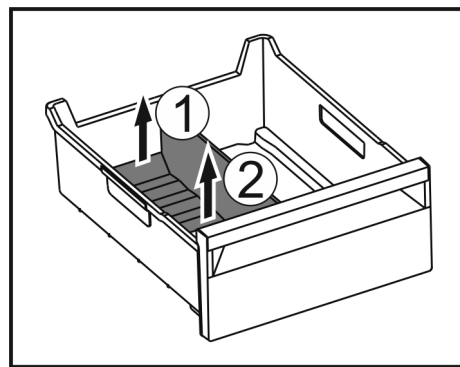

Fig. 234
- ▶ Lift the rear part of the ice compartment divider. Fig. 234 (1)
- ▶ Remove the ice compartment divider upwards. Fig. 234 (2)